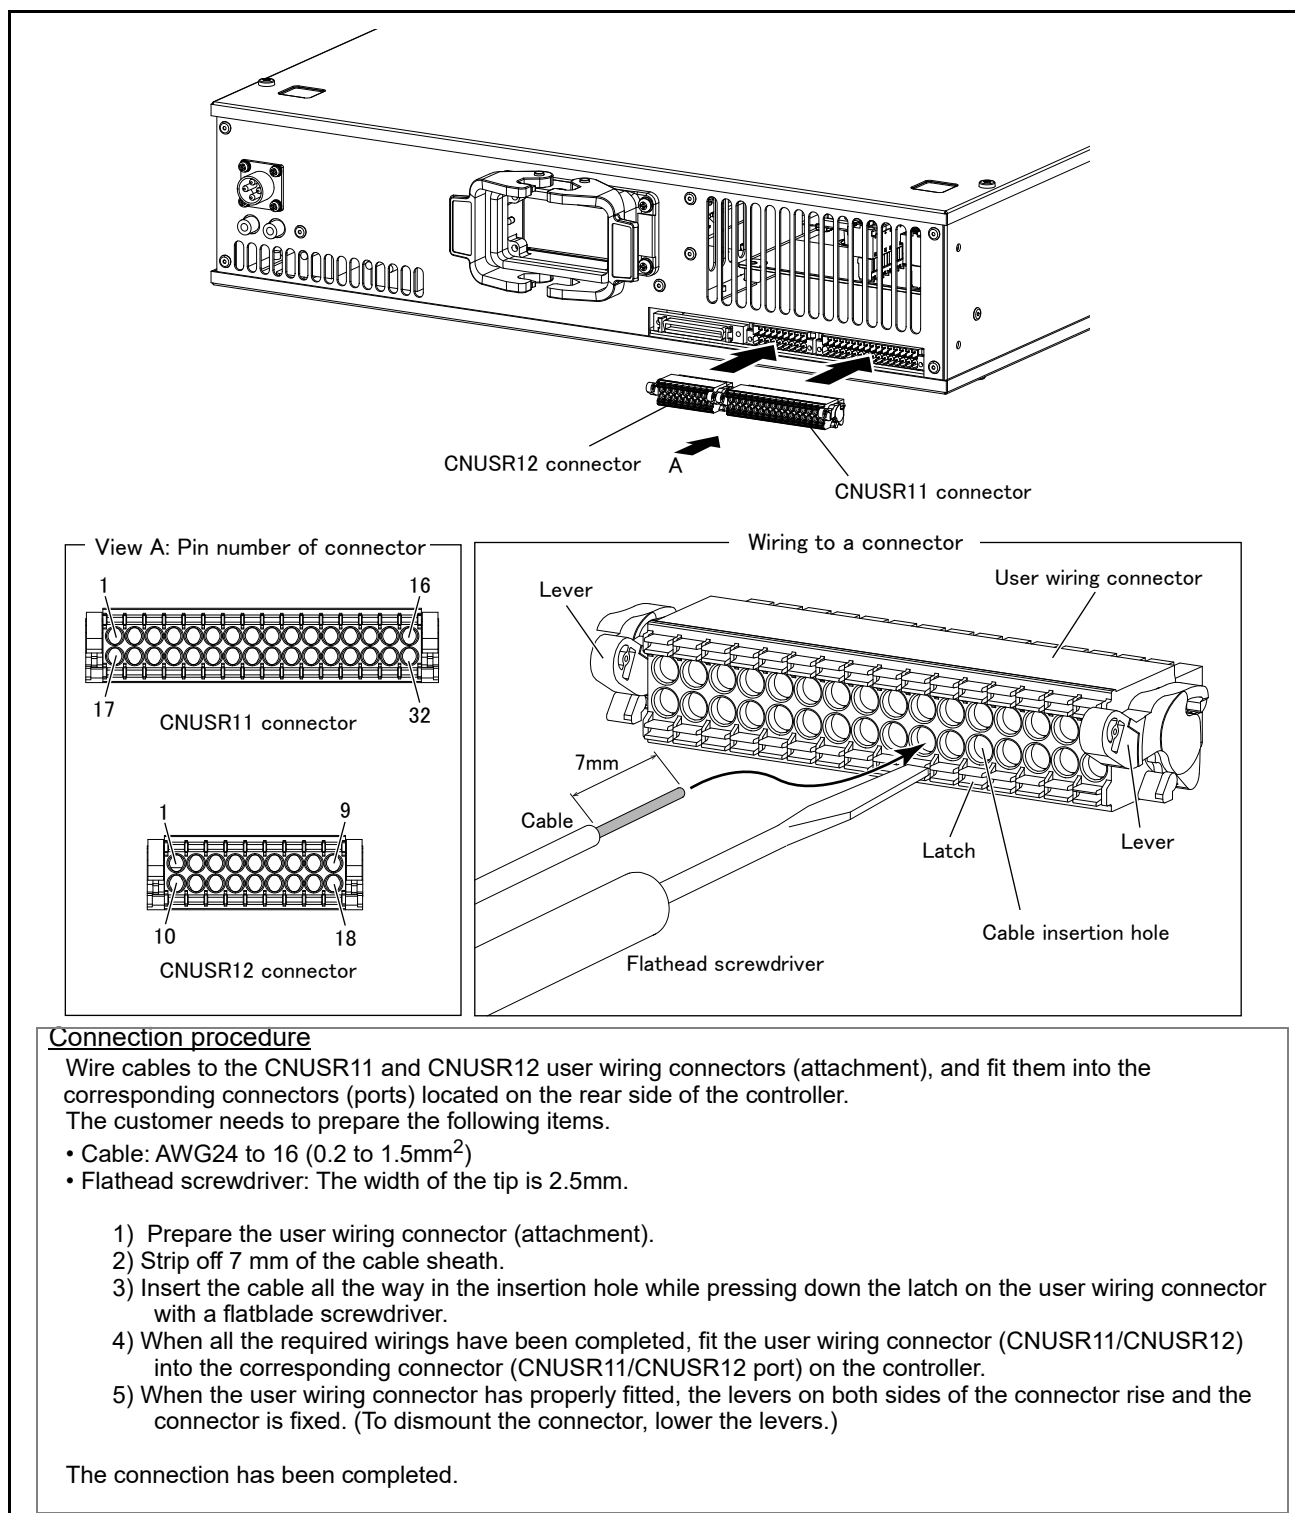

Fig.3-9: Wiring method to the user wiring connector
* Refer to Page 57 "Fig. 3-9: Wiring method to the user wiring connector" for more details about how to wire a connector.
(2) Image of how to connect the controller connector